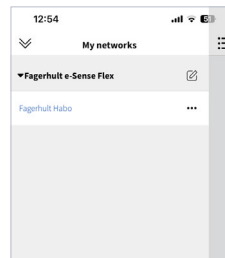

Figure 3.6 My networks
2. Click ⋮ for network management and modify owning projects and delete the network (see figure 3.6).